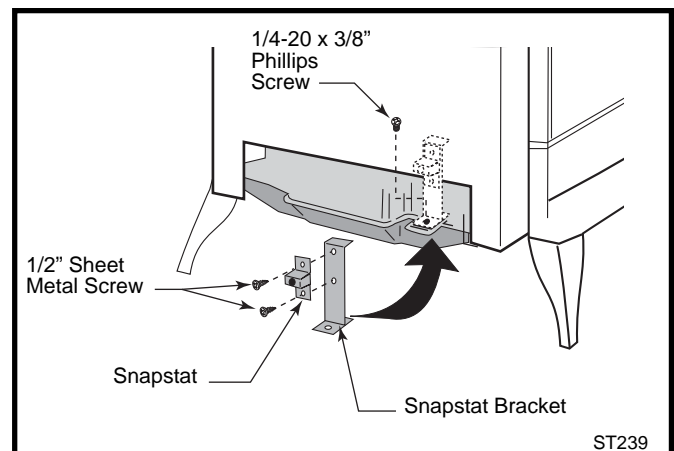

Fig. 13 Snapstat assembly and installation.
2. Attach the snapstat assembly to the snapstat bracket with two sheet metal screws. (Fig. 18) Remove the 1/4-20 x 3/8" hex head bolt installed in the hole in the right rear ledge of the firebox. Use that bolt to secure the snapstat bracket to the firebox. The mounting hole is slotted to let you adjust the bracket so that the snapstat bracket head makes contact with the firebox. (Fig. 13)